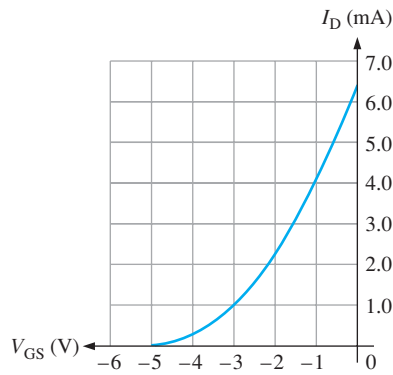
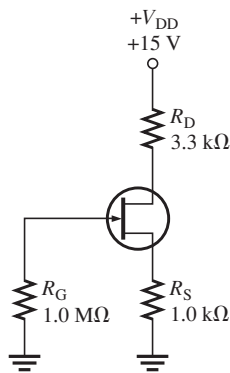

FIGURE 4-76
FIGURE 4-77
11. Assume the JFET with the transconductance curve shown in Figure 4-76 is connected in the circuit shown in Figure 4-77.
12. Assume the JFET in Figure 4-77 is replaced with one with a lower transconductance.